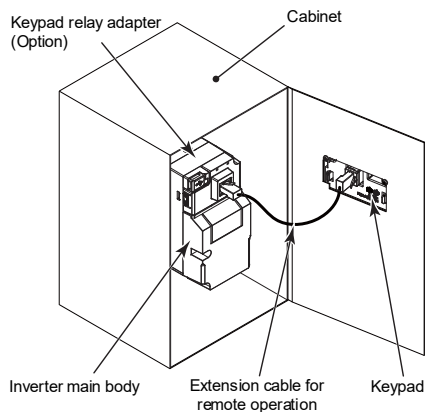

Figure 2.3-2 Attaching the keypad on the Paneling
- Attach to the paneling (refer to Figure 2.3-2)